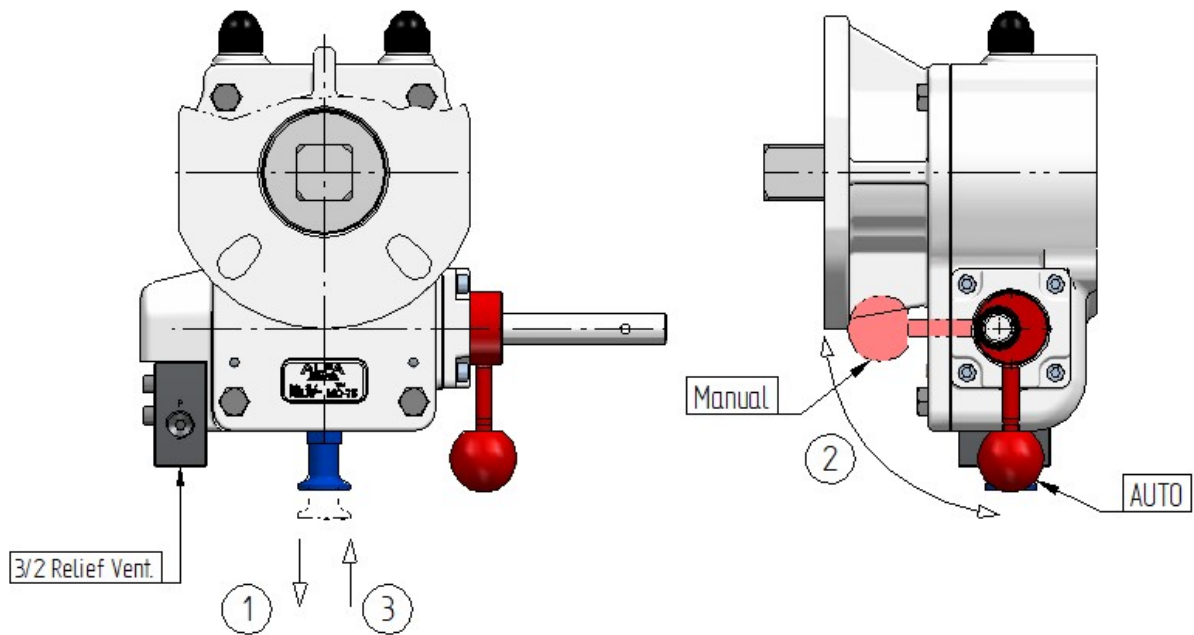

Figure 8: MO Range gearbox
2. Prior to manual operation, the gearbox has to be put into manual mode. To achieve this, refer to figure 8 and follow the next points :
- i. Pull the knob outwards (3). Secure the knob in this position.
- ii. Turn the handle clockwise (2) and release the knob. Continue turning the handle until the knob falls back into locking position (1).